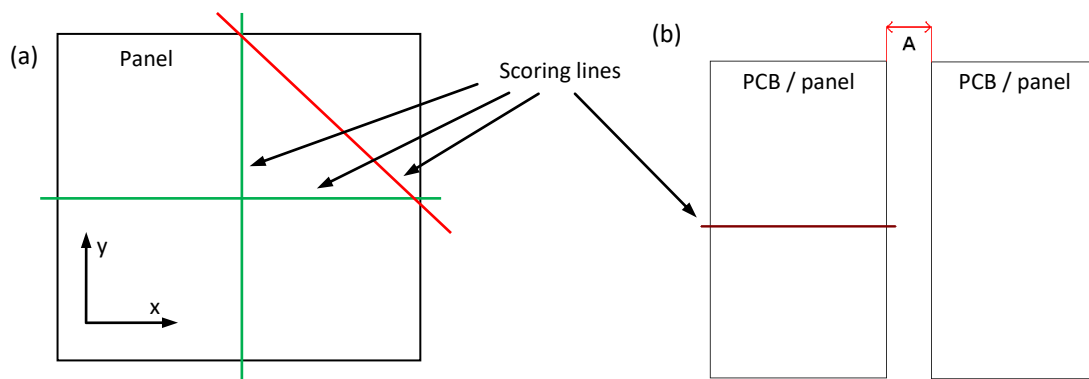

Fig. 2. (a) Standard and non-permitted scoring lines, and (b) PCB layout for skipping v-cutting.
- Laminate thickness 1.55 mm and chamber at 45°: X=0.675 mm (see Fig. 2)
- Laminate thickness 1.55 mm and chamber at 30°: X=1.170 mm (see Fig. 2)